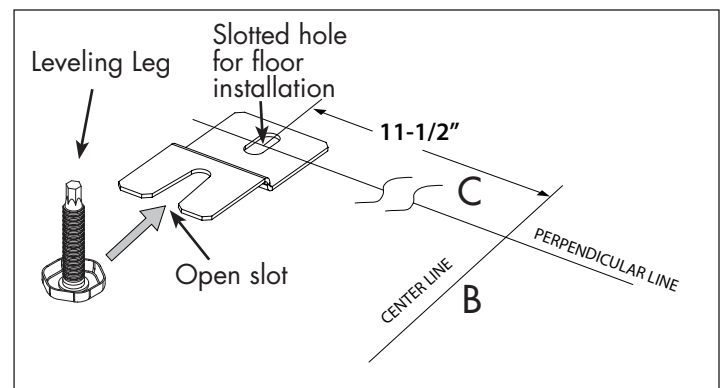

Figure 2.8
5. Fasten the bracket to the floor thru the slotted hole (see Fig. 2.8) using the appropriate fasteners for the type of floor.
6. Position the unit so that the leveling leg engages into the anti-tip bracket (Fig. 2.8).